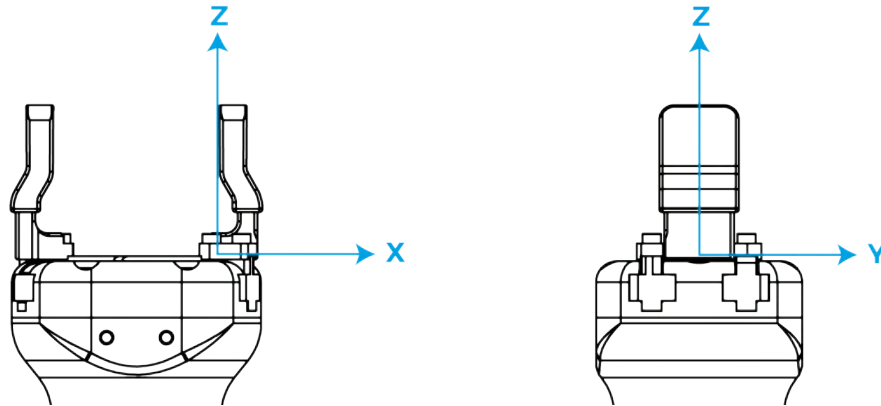

Fig. 5-21: Reference frame for maximum force and moment values applied to the fingers
*Moments in x and y are calculated from the base of the fingers, as shown in Fig. 5-21